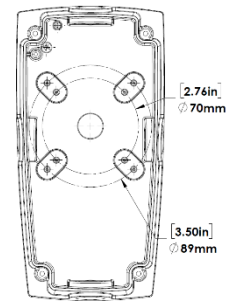

Fig. 1
1. Open the fixture by removing the four (4) screws located on the corners of the front housing.
2. Mount the fixture back plate to the J-Box (not provided) using the appropriate knock-out holes (Fig. 1), after installing provided gasket.